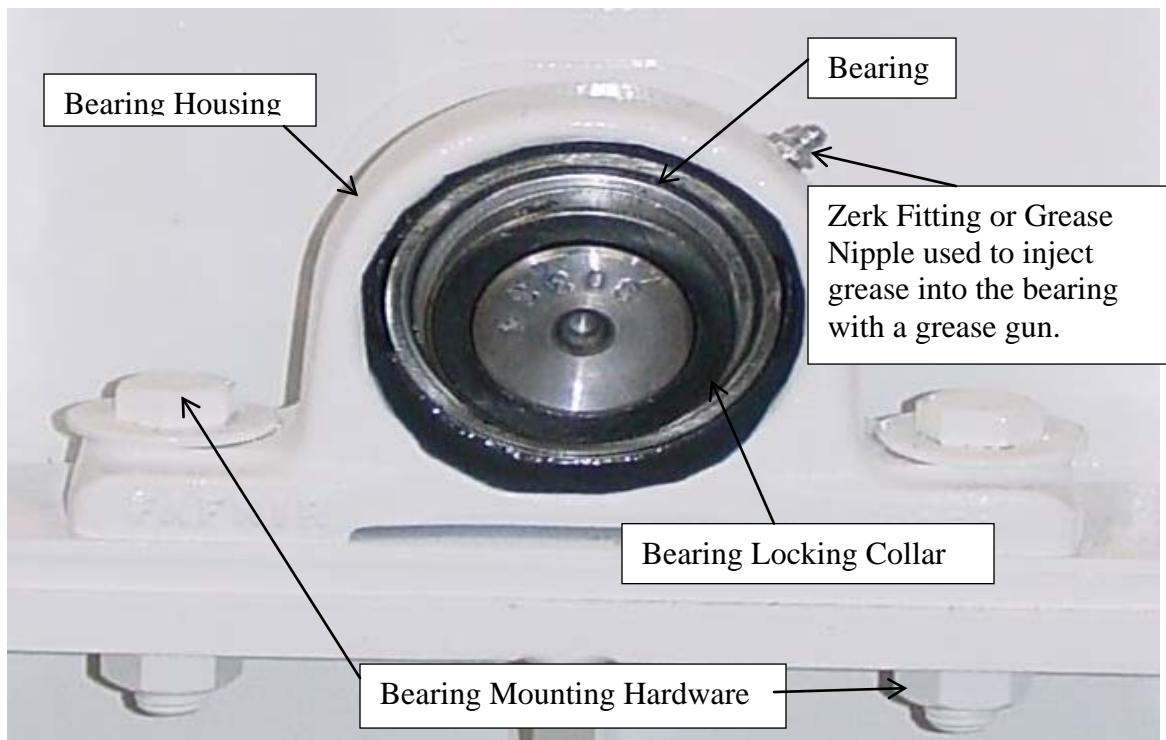

Figure 5-9: Bearing detail and Identification
2. Refer to Figure 5-9 and remove the covers for the Hammer Pin Removal Access Ports. There are two covers on opposite sides of the mill body.